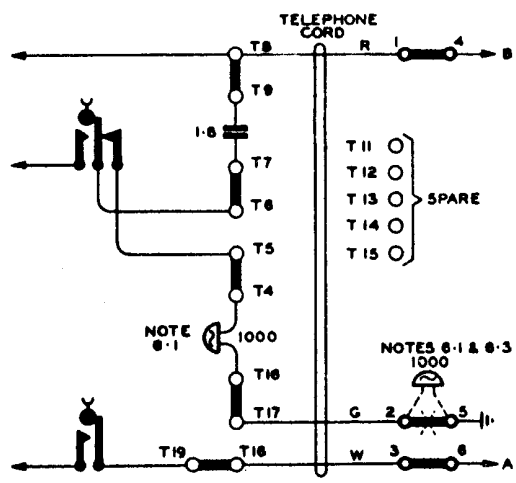

FIG. 8
6.2 Connections for an "X" station are shown in Fig. 8 or 9. For a "Y" station, reverse A & B wires of exchange line at block terminals 4 and 6.
6.3 Extension Bell. Remove strap shown ~~✱~~ and connect bell as shown - - - - in Fig. 8.